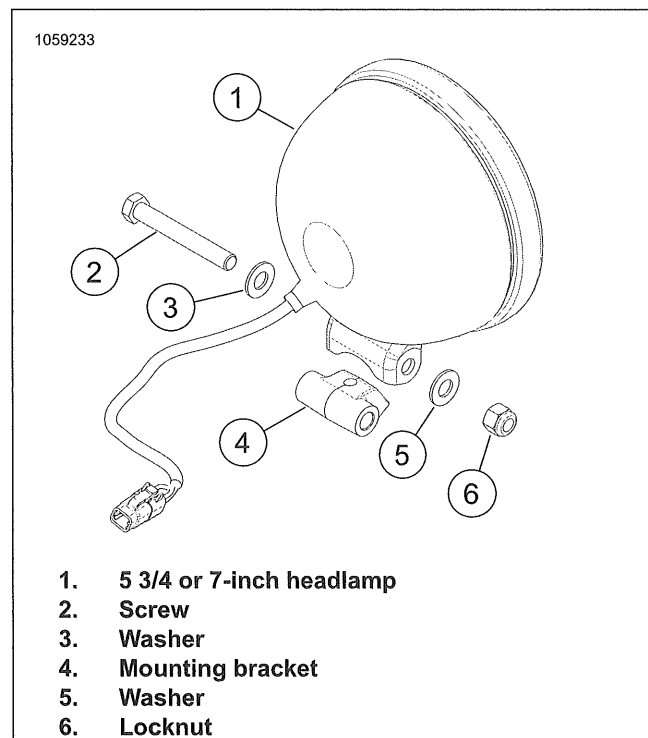

Figure 7-46. Round Headlamp (Typical)
2. See Figure 7-46. Remove locknut (6) and flat washer (5).
3. Remove screw (2) and flat washer (3).
4. Remove headlamp (1).
1. See Figure 7-46. Install headlamp (1).
2. Install screw (2) and flat washer (3).
3. Install flat washer (5) and locknut (6). Tighten.